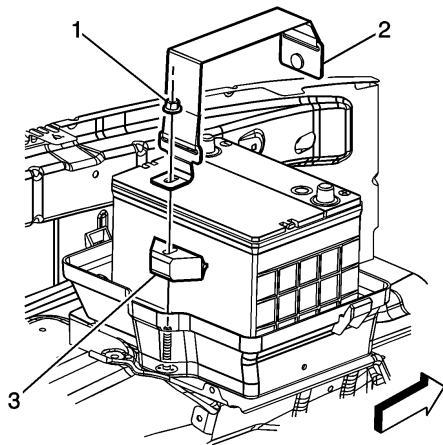

Fig. 5 Battery tray strap & retainer removal
12. Remove battery retainer nut (1), **Fig. 5**.
14. Remove battery tray strap (2) and battery retainer (3), **Fig. 5**.
2. Install battery retainer (3) and battery tray strap (2), **Fig. 5**.
4. Install battery retainer nut (1), **Fig. 5**. **Torque** nut to 11 ft. lbs.